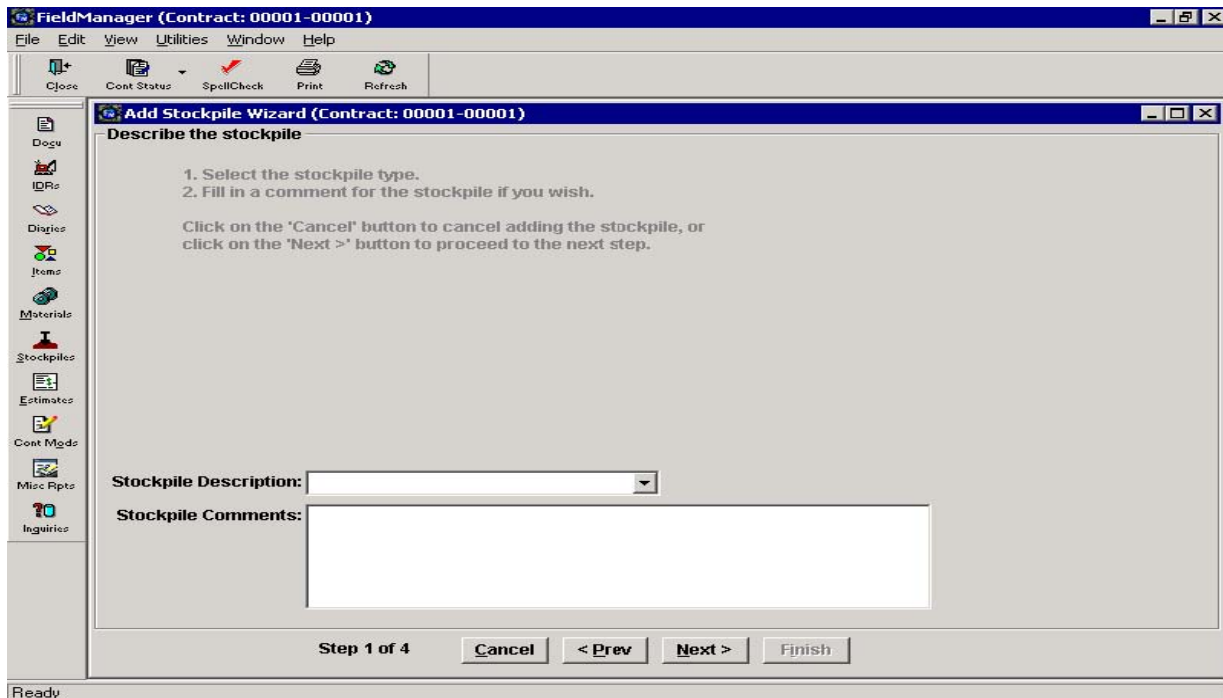

Figure 8-2
Step 1 of 4 asks you to describe the stockpile (see Figure 8-2).